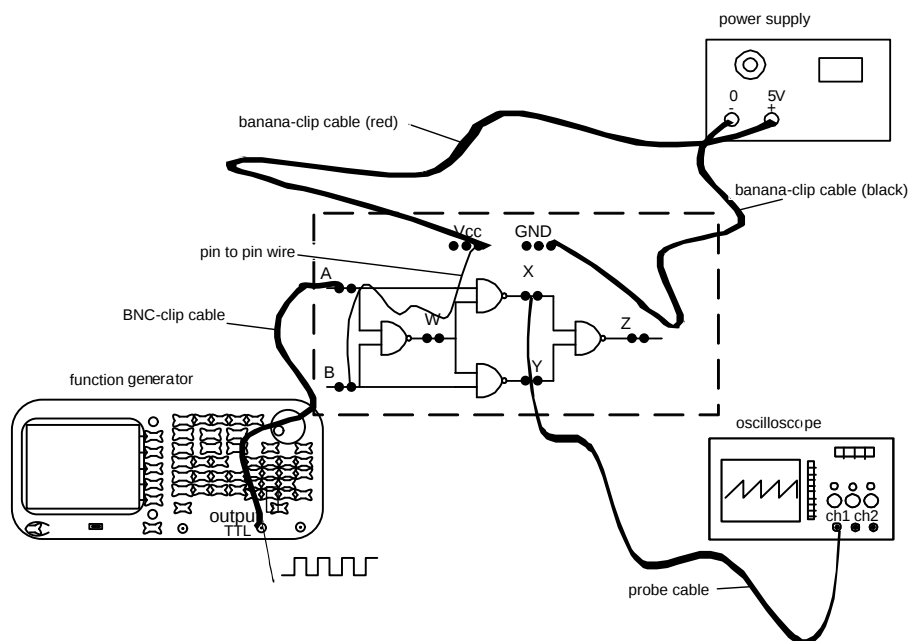

Figure 1.5: Connecting the PCB
You've been provided with a PCB with the circuit on it. Connect the PCB to the function generator, power supply and oscilloscope as shown in Figure 1.5:
- Use the oscilloscope to check whether your prediction about spikes in signal X was correct. A probe cable should be used to connect the oscilloscope to the PCB. Check if the probe is set to 1x. Although this is not drawn in Figure 1.5, note that the ground connection of the function generator as well as the ground connection of the probe should both be connected to the ground connection of the circuit.